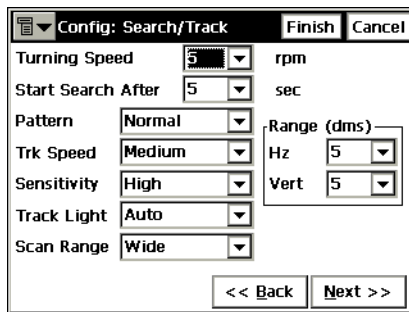

Figure 3-52. Config: Search/Track
8. For a Robotic Survey, on the *Config: Search/Track* screen, set the search parameters: the range of search along the vertical and horizontal axes, pattern, track speed, sensitivity, delay between the loss of signal and a new search start, turning speed (measured in revolutions per minute) and the scan range (the width of the signal), then tap **Next** (Figure 3-52).